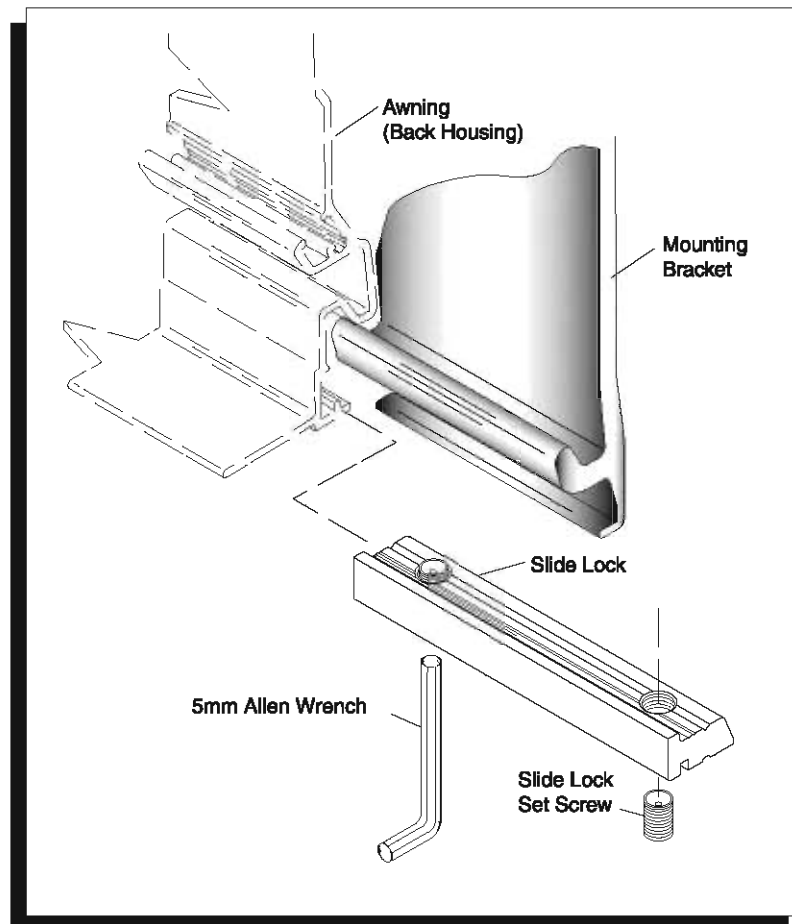

FIGURE 18
2. Remove the three (3) brackets from back of awning using a 5mm Allen wrench to loosen the set screws (one on the bottom of each bracket). (See Fig. 18).